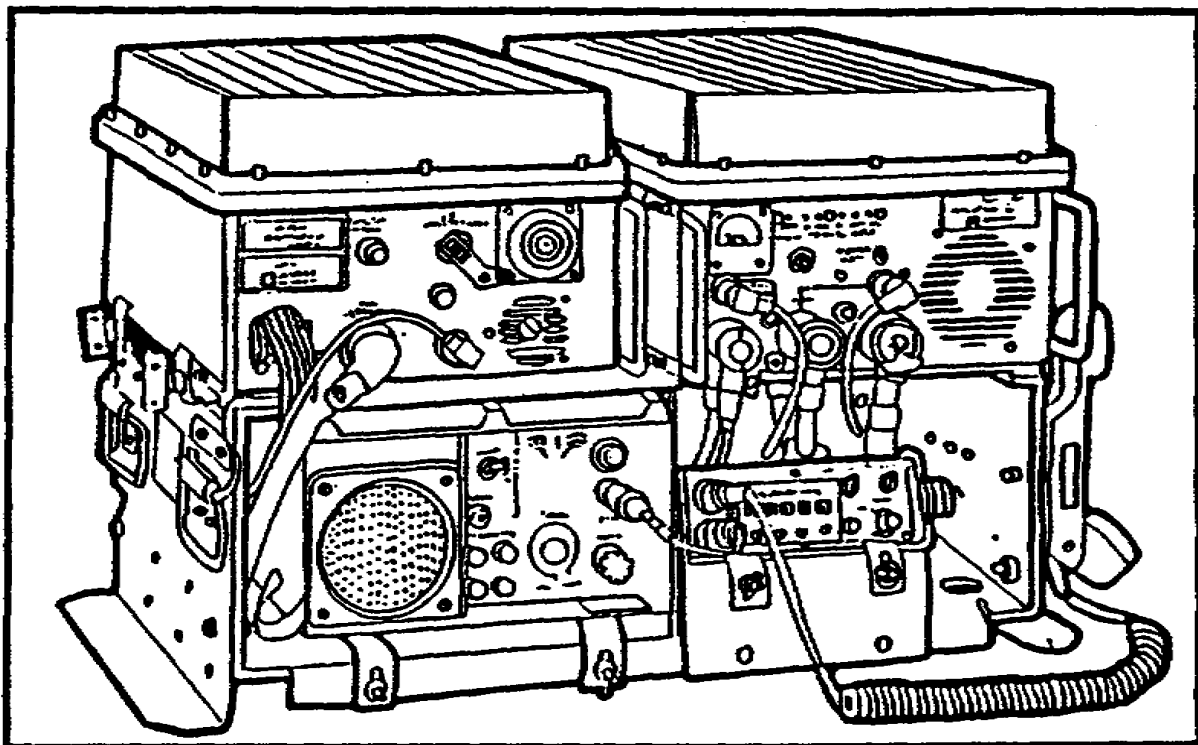
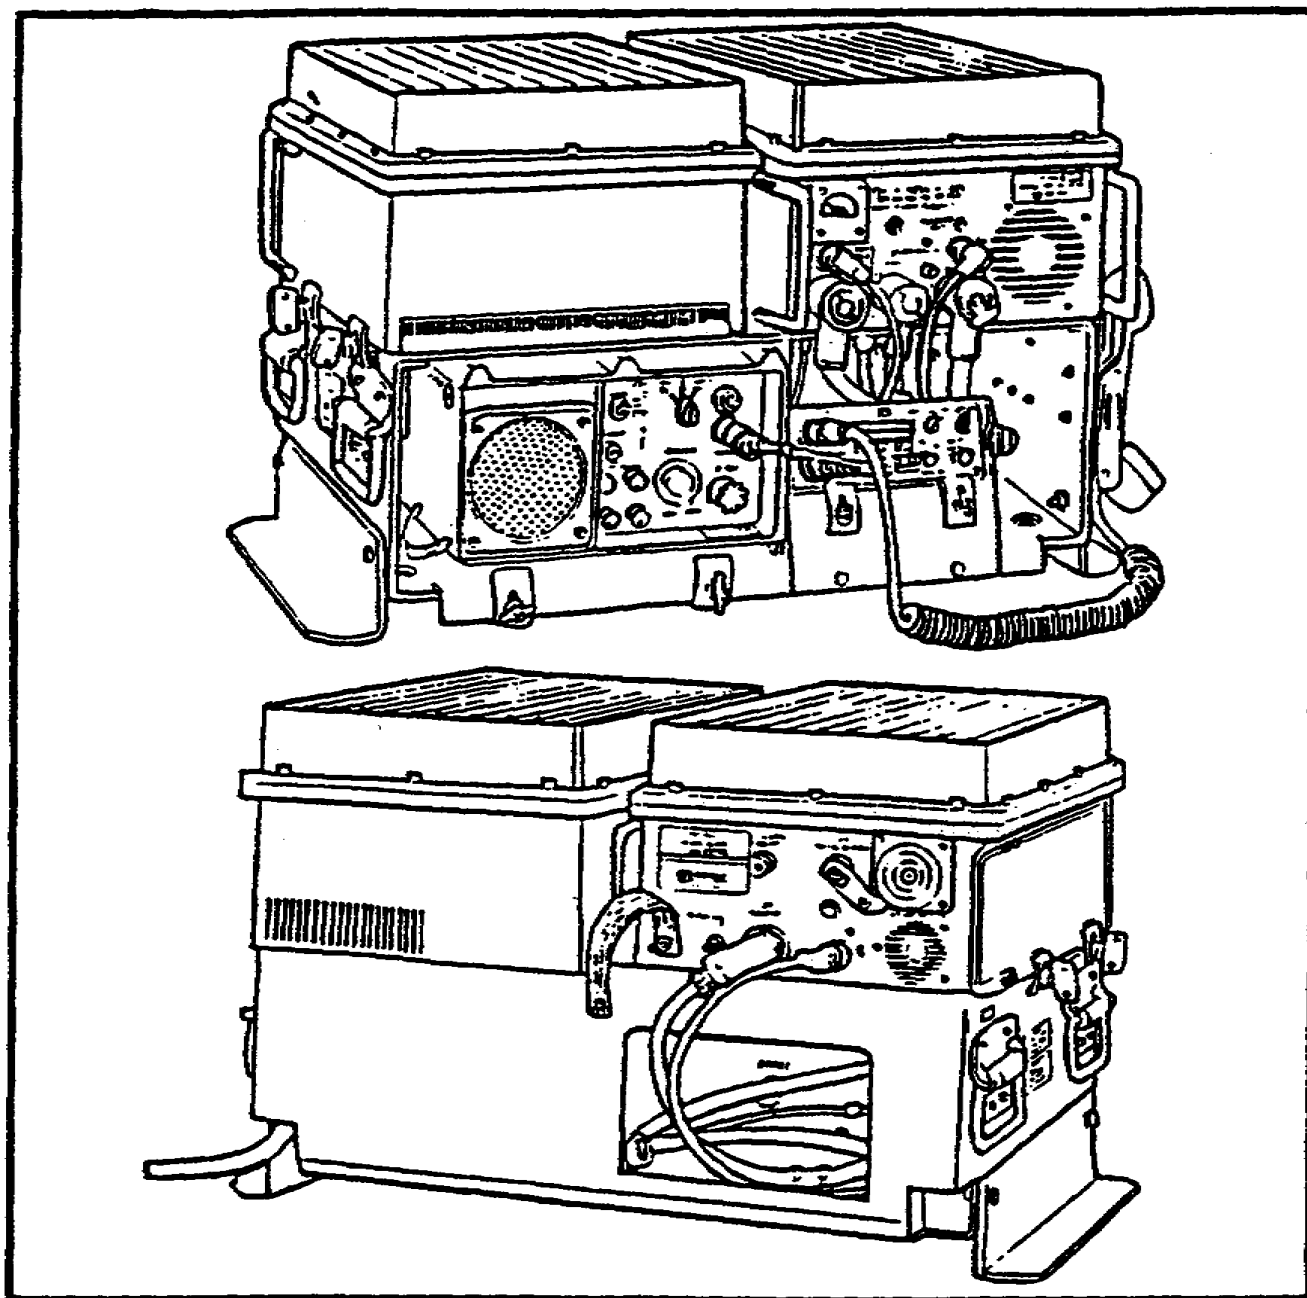

Figure 1. AN/GRC-193A (front view).
Figure 2. Reverse mounting of CU-2064.
a. The configuration that is likely to be most common is mounted on MT-6232/GRC-193 with the CU-2064 facing forward. (See Figure 1.) The other configuration using the MT-6232/GRC-193 has the CU-2064 mounted in reverse for convenience in routing the radio frequency (RF) cable to the antenna. (See Figure 2.)